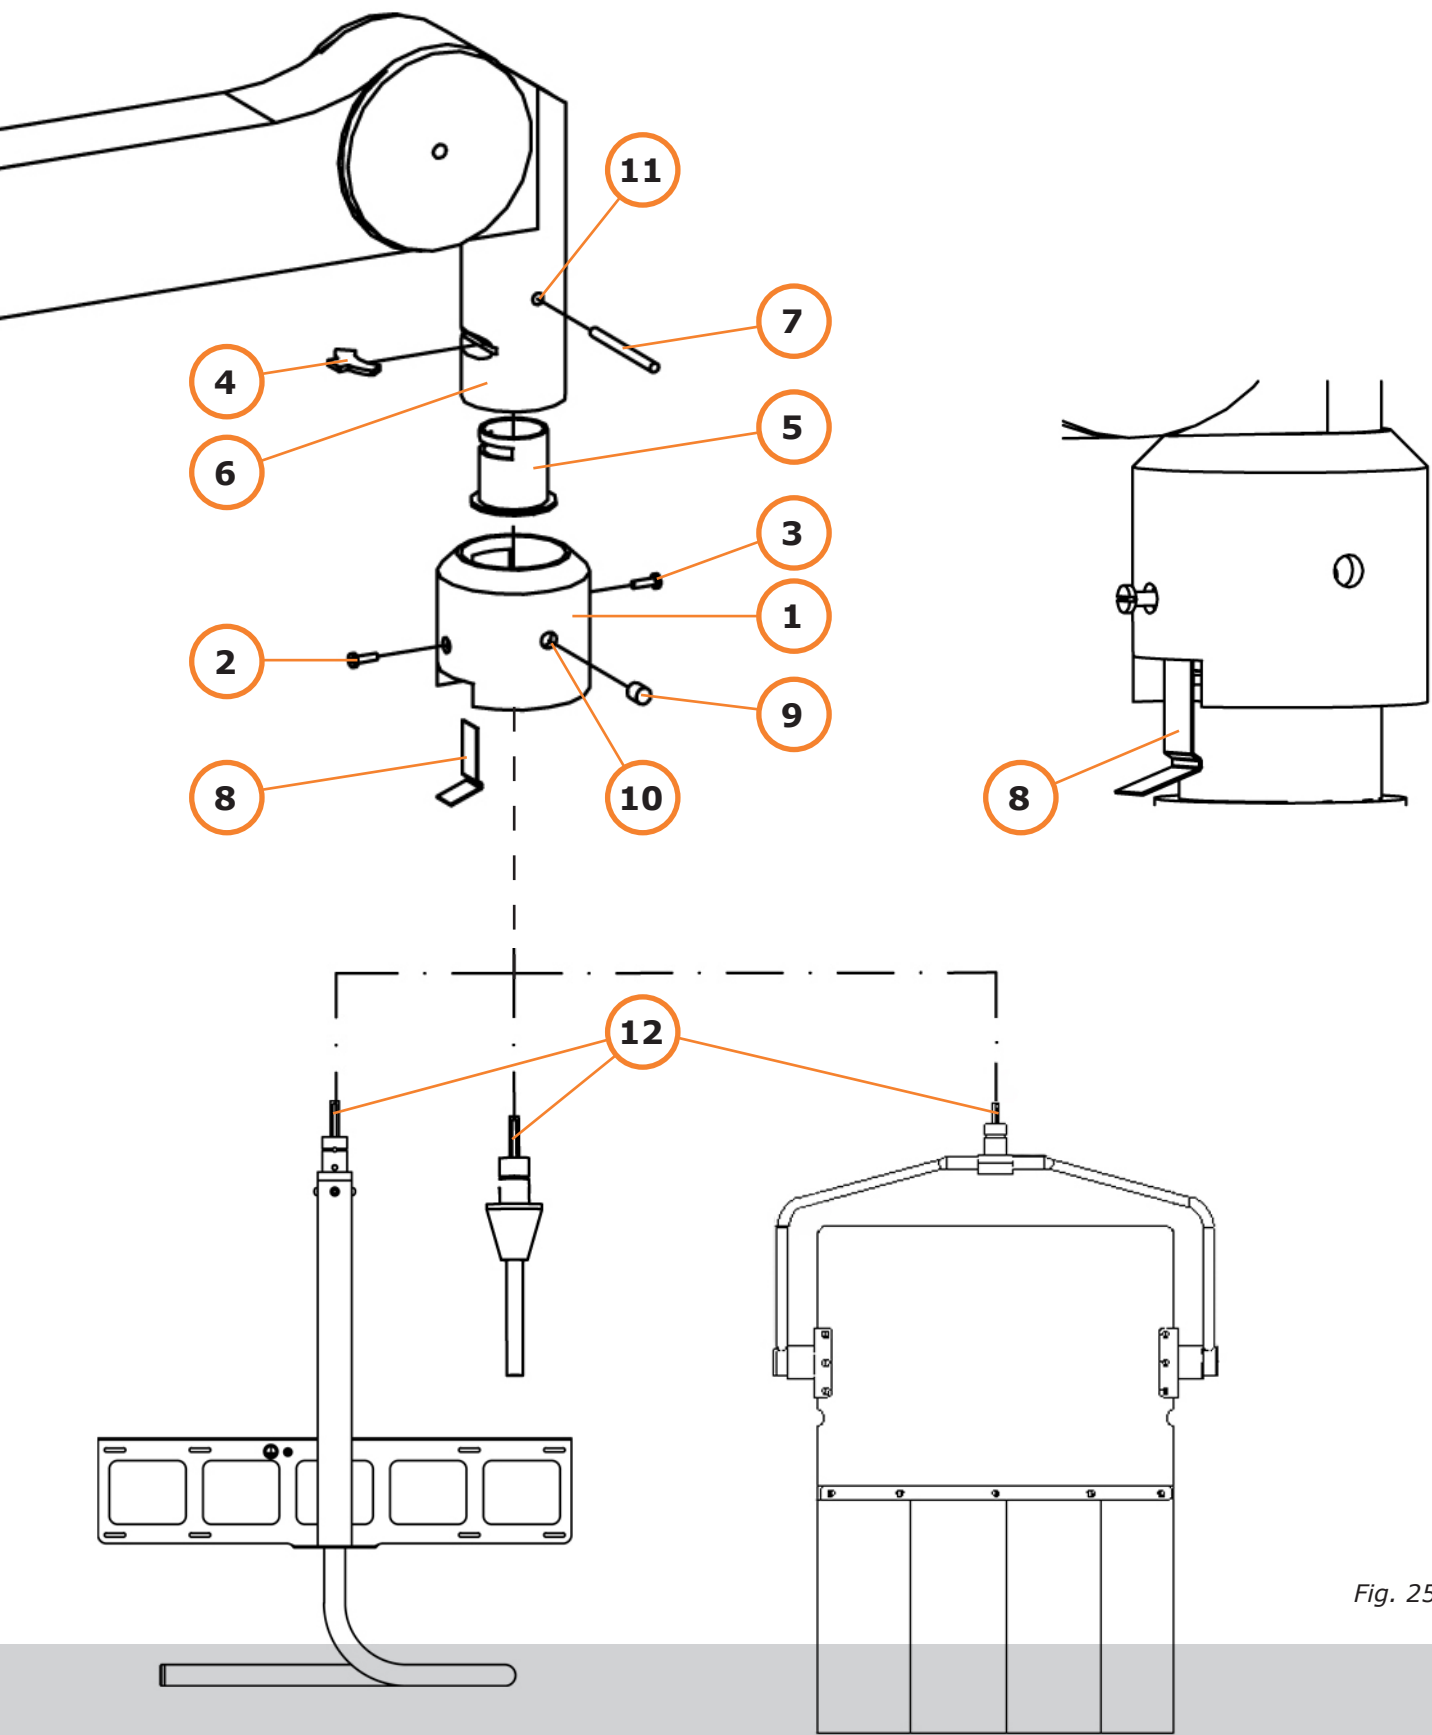

Fig. 25
10.1.1 Remove the screws (2,3/Fig. 25) from the safety collar (1/Fig. 25). Store them in a safe place.
10.1.2 Push up the safety collar (1/Fig. 25) until it rests on the plastic cover and hold it in this position.
Hold the safety collar (1/Fig. 25) to ensure that it will not fall off the spring arm.
10.1.3 Remove the retaining clip (4/Fig. 25) from its slot Fig. 25 and remove the protective cap (5/Fig. 25) from the receptacle (6/Fig. 25).
NOTE: The eyehole of the safety pin/connecting part (12/Fig. 25) must line up with the drill holes (10,11/Fig. 25) to allow the insertion of the straight pin (7/Fig. 25).
10.1.4 Insert the safety pin/connecting part of the adaptable element (12/Fig. 25) into the receptacle (6/Fig. 25) until it rests on its flat surface. Insert the retaining clip (4/Fig. 25) in its slot.
10.1.5 Position the safety collar (1/Fig. 25) until the drill holes (10/Fig. 25) align with the holes (11/Fig. 25) in the receptacle.
10.1.6 Insert the straight pin enclosed (7/Fig. 25) into the drill hole. If correctly installed, the safety collar (1/Fig. 25) can now slide freely downward.
Remove the safety spring (8/Fig. 25) from your shipping carton and insert it, long end first, into the safety collar (1/Fig. 25) as shown in detail (Fig. 25).
10.1.7 Secure the safety spring (8/Fig. 25) under the retaining clip (4/Fig. 25).
10.1.8 Carefully, slide the safety collar (1/Fig. 25) over the safety spring (8/Fig. 25), until it is flush with the flat surface of the receptacle. While sliding down the safety collar, make sure the safety spring is firmly set.
10.1.9 Insert and tighten the screws (2,3/Fig. 25) into the drill holes as shown in the figure.
10.1.10 Remove the plastic plugs (9/Fig. 25) from your shipping carton and insert them into the drill holes (10/Fig. 25) on the sides of the safety collar (1/Fig. 25).